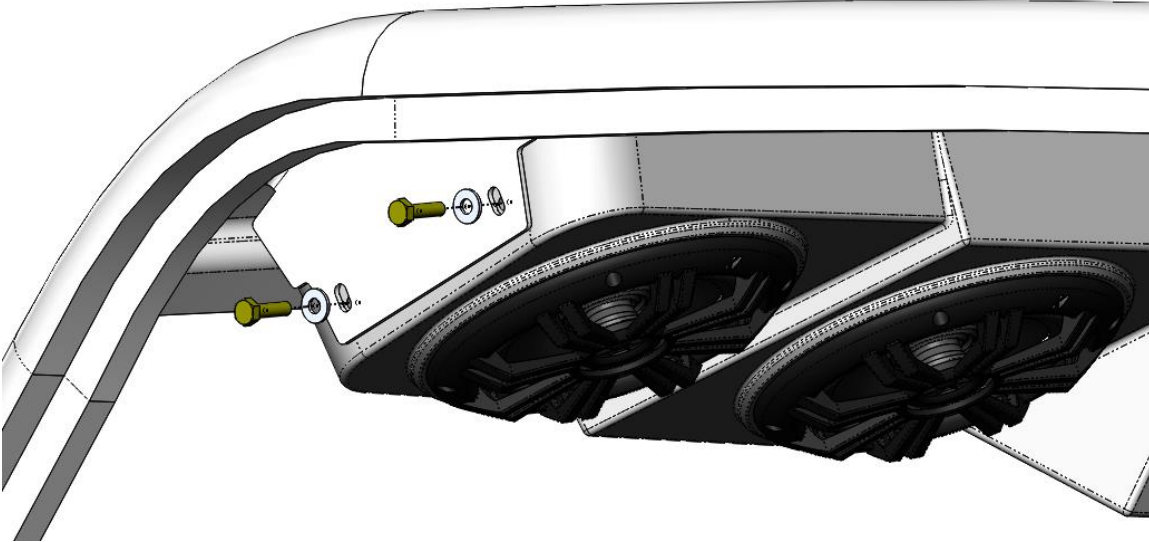
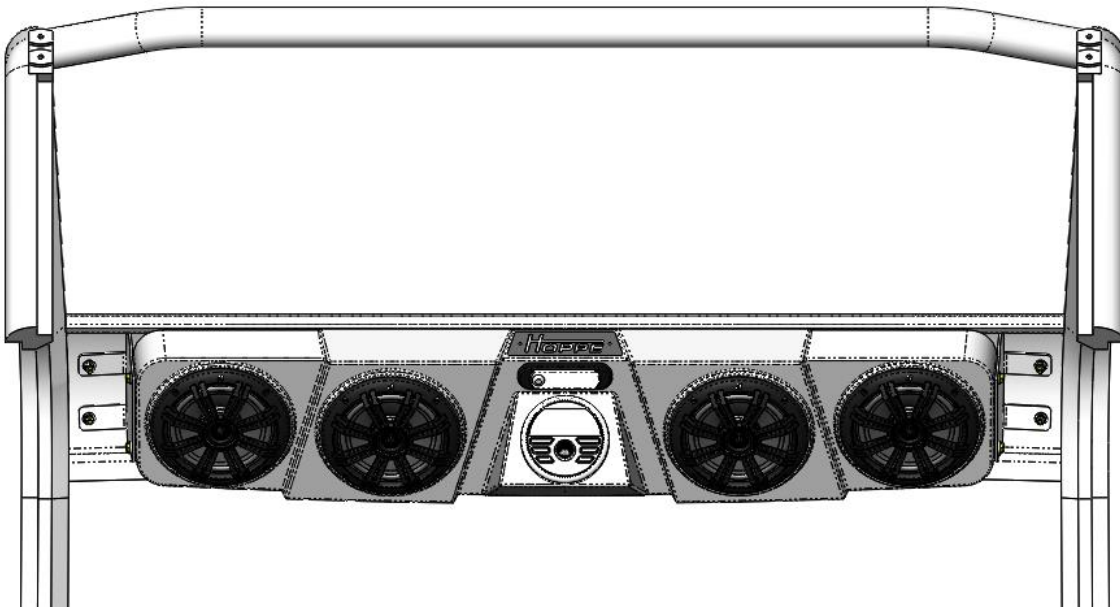

Figure 7: Install the $\frac{1}{4}$ "-20 bolts and washers to mount the Audio Mini to the brackets.
Figure 8: Loosely install the sound system on the mounting brackets.
4. Using an assistant, hang the *Audio Mini* off-road sound system on the brackets using the supplied $\frac{1}{4}$ "-20 bolts and washers (loosely tightened). **Note: The sound system weighs up to 25 lbs. Since you will have to lift and bolt each end, it is helpful to have an assistant for this step.** See Figure 7 and Figure 8.